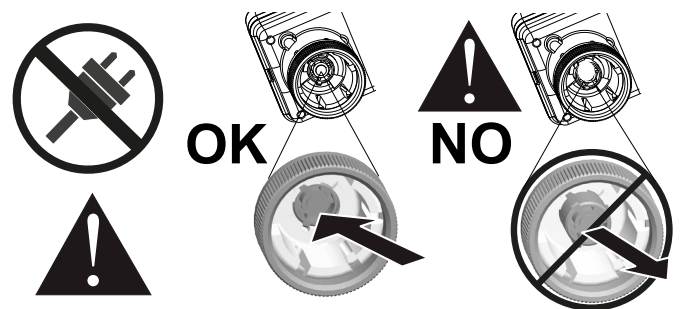

Figure 5: Spindle retracted
4. Check that the actuator spindle is in the retracted position (see Figure 5, further details on page 10)